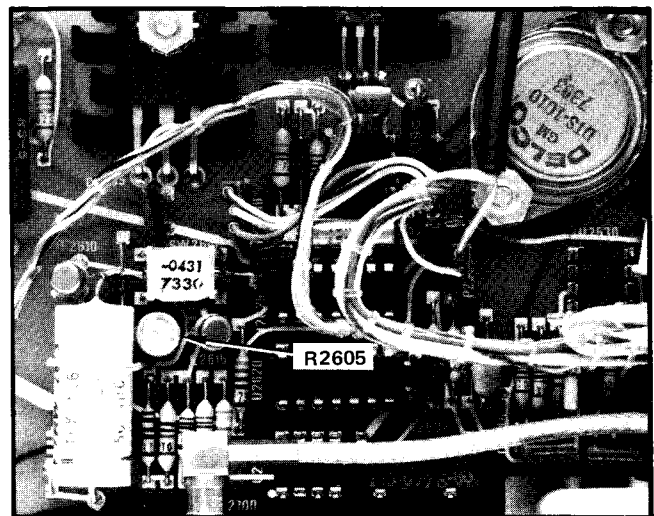

Fig. 4-12. Location of Memory Adjust R2605.
d. Switch the **AUTO PHASE LOCKED** switch on and off while adjusting **R2605** (Fig. 4-12) so the signal locks near the same position it was at with phase lock off. If it appears that **R2605** does not have enough range, proceed with step e.